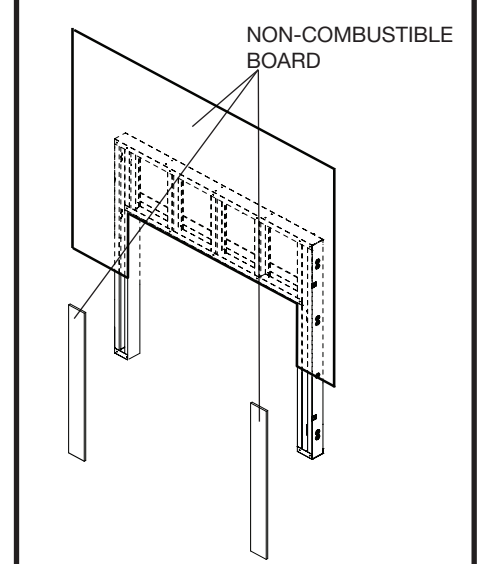

Figure 12: Non-combustible calcium silicate board..
If the backer board is not to be finished with other non-combustible material such as tiles, it is recommended that the instructions in (Figure 12) be followed closely.
**CAUTION:** See Figure 12 BEFORE PROCEEDING.